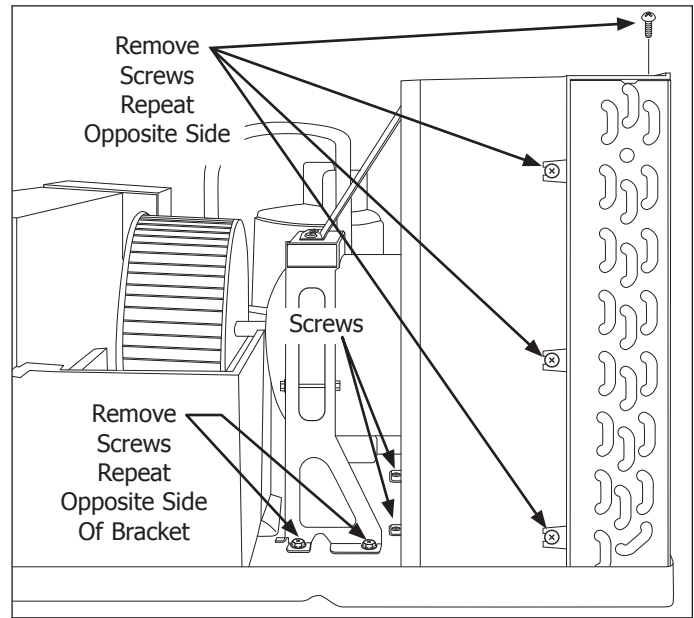

Figure 4-100.
6. Extract the 3 screws from each side of condenser, then extract the two screws from the top of the condenser. (See Figure 4-100)
7. Extract the two screws securing the bottom of the fan and blower assembly to the unit base. (See Figure 4-100)
8. Use either a 10 mm extended socket of a long phillips head screwdriver and extract the four screws securing the fan motor mounting bracket to the unit base. (See Figure 4-100)